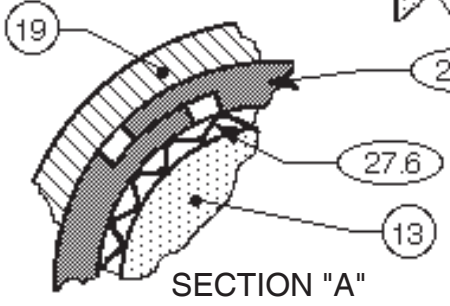
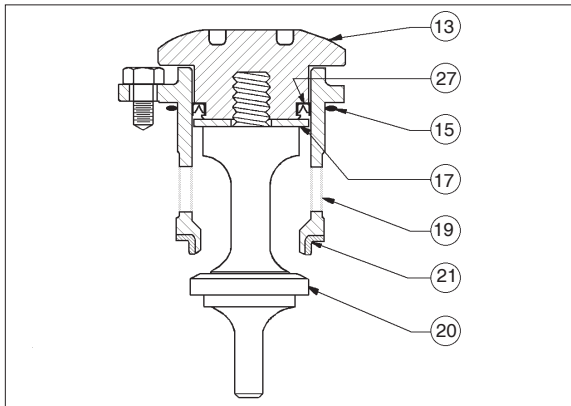
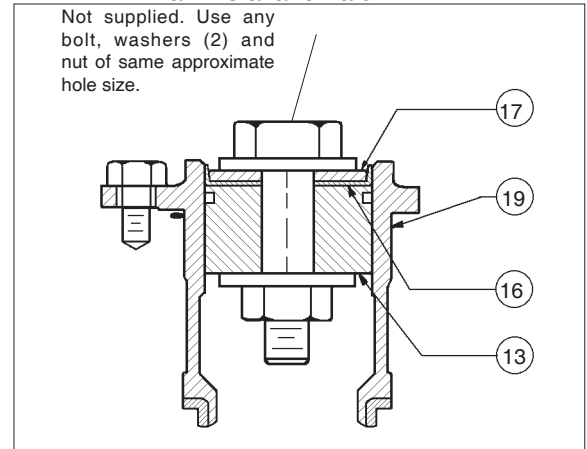

Figure 1: Dynamic Side Seals
Figure 3: Assembled ITA,
Figure 4: Temporary Assembly Parts
A detailed view of the dynamic side seal parts is shown in Figure 1 on the next page.
- e. Remove wiper seal (16), if supplied, from within cage (19).
- f. Remove wiper washer (17.1) or camber adjusting washer (17.2), if supplied, from within cage (19).
- g. Remove o-ring lower stem seal (14.3) from plug (20).
- h. Remove seat ring (21); examine for signs of leakage. If seat ring (21) shows signs of significant leakage, determine if operating conditions of pressure, pressure drop, or temperature are exceeding limits.
2. Units with Metal Diaphragm(s) (See Fig 3):
- a. To disassemble the ITA, hold the lower part of the valve plug (20) in a bench vise; do not hold on the machined surface in the plug's (20) spindle area. (The spindle "slides" in the pressed-in-place lower guide bushing (24) and can not be allowed to be marred.)
- b. Using a special double-posted spanner wrench fitting (to order see NOTE in Section X, Parts Ordering Information), turn the piston-guide bearing (13) CCW to loosen; piston-guide bearing (13) can be removed by hand after loosening.
- c. Pull the valve plug (20) downwards out of the piston-guide bearing (13) and out thru the bottom of the cage (19).
- d. Remove the piston-guide bearing (13) from the upper end of cage (19).
1. When replacing the optional wiper seal (16), the replacement wiper seal (16) is “pre-formed”. It may, however, require reforming. Under normal circumstances, this step may not be required. If needed, reform the wiper seal (16) by pressing the temporary assembly parts into the cage (19) backwards as shown in Figure 4. The wiper seal (16) is best left in this position overnight (minimum of two (2) hours) prior to reassembly.
2. After forming the wiper seal, remove parts (13, 16, 17) from cage (19) and disassemble the temporary assembly of Step 1. above.
3. Installation of dynamic side seal (27) (See Figure 1):
1. Stretch u-cup seal (27.3) over lower circumference of piston-guide bearing (13), taking care not to “cut” u-cup seal (27.3) on the protruding shelf that is part of the piston-guide bearing's (13) groove. Ensure that the u-cup seal (27.3) is oriented with the center-open-downwards as shown in Figure 1, as the u-cup seal (27.3) depends upon the P1-Inlet Pressure to pressure activate the seal for proper sealing action.
2. Position piston-guide bearing (13) over and into upper end of cage (19) until the cap seal (27.1) edge touches the upper lip of the cage (19). While gently applying force to press the piston-guide bearing (13) into the cage (19), simultaneously use fingers to lightly press the u-cup seal (27.3) inwards into the groove of the piston-guide bearing (13) until the u-cup seal (27.3) “slips into” the cage (19). DO NOT USE TOOLS, LUBRICANT, OR HEAVY FORCE TO ENGAGE THE U-CUP SEAL (27.3) INTO THE CAGE (19).
4. Place properly oriented seat ring (21) onto its shoulder at the lower end of cage (19).
- a. Place new o-ring lower stem seal (14.3) into groove of valve plug (20).
- b. Insert valve plug (20) upwards through lower end of cage (19) and through the center hole in piston-guide bearing (13), also capturing the camber adjusting washer (17.2) or wiper washer (17.1) and wiper seal (16), if supplied. Hold plug (20) and cage (19) together.
- c. Place an oversized nut or stack of washers, the same approximate height of the upper diaphragm pressure plate (8) and the lower diaphragm pusher plate (10), over the upper end of valve plug (20) and temporarily secure with diaphragm lock nut (7), manually tightened. Do **NOT** allow valve plug (20) to rotate against seat ring (21) during tightening.
- a. Insert valve plug (20) upwards through lower end of cage (19) and through the center hole of camber adjusting washer (17.2) or wiper washer (17.1) and wiper seal (16).
- b. Engage valve plug (20) with piston-guide bearing (13) threads and tighten manually as far as possible.
- c. Place ITA into a vise with leaded jaws and grasp at a hub location on the valve plug (20) that is not in the “spindle” zone. (See Figure 3.)
- d. Using a special double-posted spanner wrench fitting (to order see NOTE in Section X, Parts Ordering Information), tighten piston-guide bearing (13) to the valve plug (20) with the following torque values. Do **NOT** allow valve plug (20) to rotate against seat ring (21) during tightening.
1. Place body (23) in a vise.
2. Reinstall internal sensing drilled plug (32) with compatible thread sealant.
3. Insert the lower piston spring (22) into the body (23), if supplied.
4. Fit the o-ring cage seal (15) into its body (23) groove.
5. With the ITA held manually in the closed position, insert ITA into body (23).
6. Properly align all three cage bolt (18) holes as there is only one circumferential location possible for this alignment. If a lower piston spring (22) is used, apply downward force to the top of the cage (19) until the ITA is lowered sufficiently to engage the cage bolts (18) into the body (23). Engage all of the cage bolts (18), then evenly screw in the cage bolts in one-half revolution increments to pull down the ITA evenly, taking care NOT TO “ANGLE” the ITA in the BODY. Torque the cage bolts (18) to 13-15 ft-lbs (17.6-20.3 N-m).